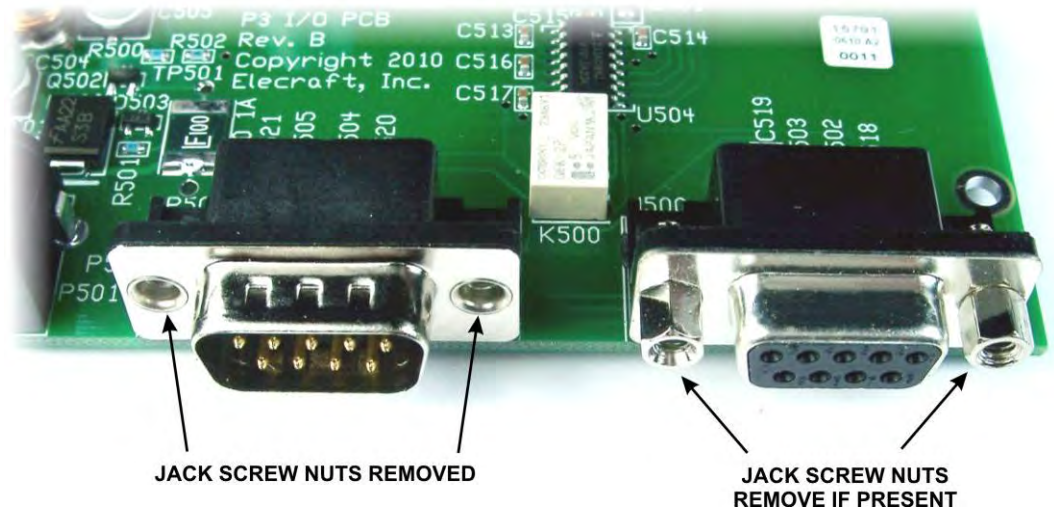
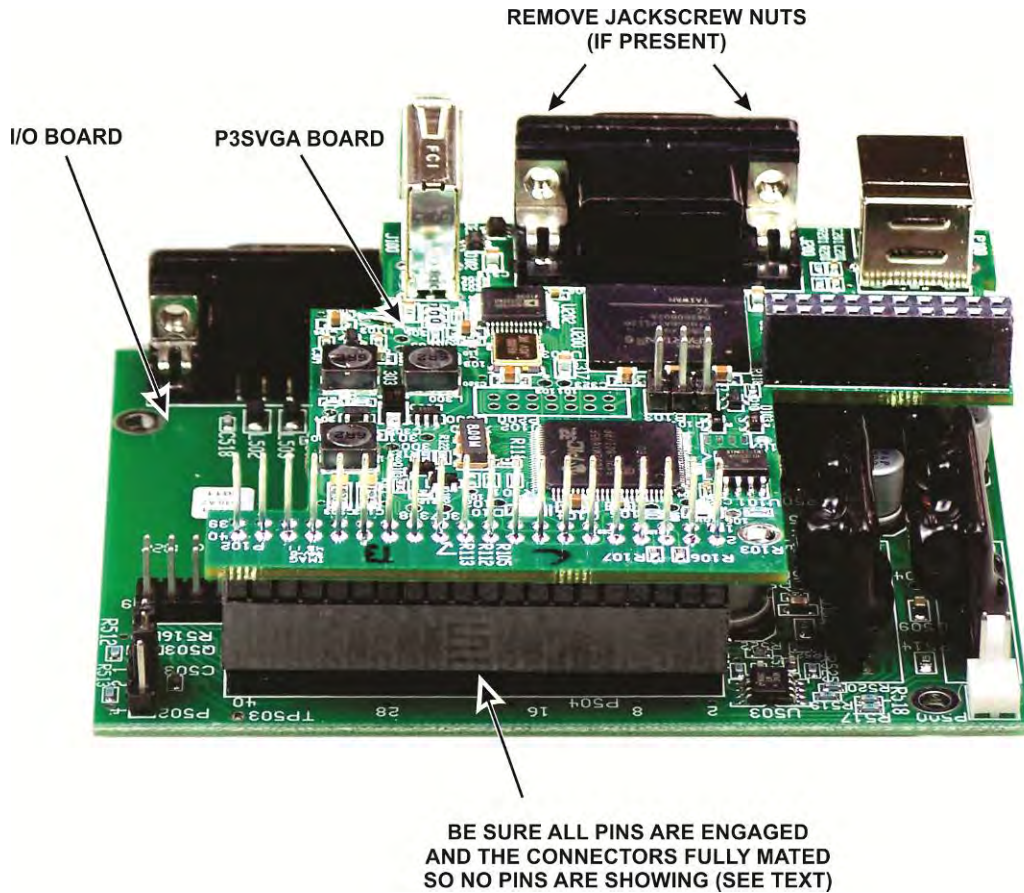

Figure 14. Preparing the I/O Board for Installation.
Figure 15. Mating the P3SVGA and I/O Boards.
□ Remove the I/O printed circuit assembly from its anti-static packaging and check to see if either of the two multi-pin connectors have jack screw nuts installed (see Figure 14). These are the nuts the jack screws on the connector shells screw into to secure them. If either connector has jack screw nuts installed, remove them.
□ If you have the P3SVGA board to install at this time, check the connector and remove the jackscrew nuts if present, just as you did for the I/O board connectors (Figure 14). Mount the P3SVGA board on the I/O board as shown in Figure 15. Be sure the connectors are aligned so that all pins engage. To avoid over-stressing the boards, place the I/O board on a firm surface or support it with your fingers. You may need to rock the P3SVGA board slightly while pressing down to “walk” the pins into the connector/